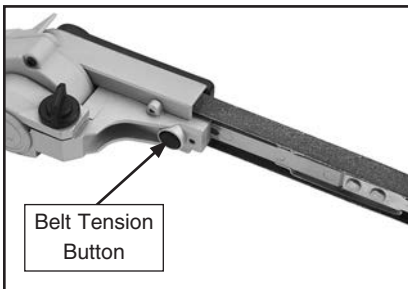

Figure 7. Belt tension button location.
- Press belt tension button (see **Figure 7**) to tension sanding belt.